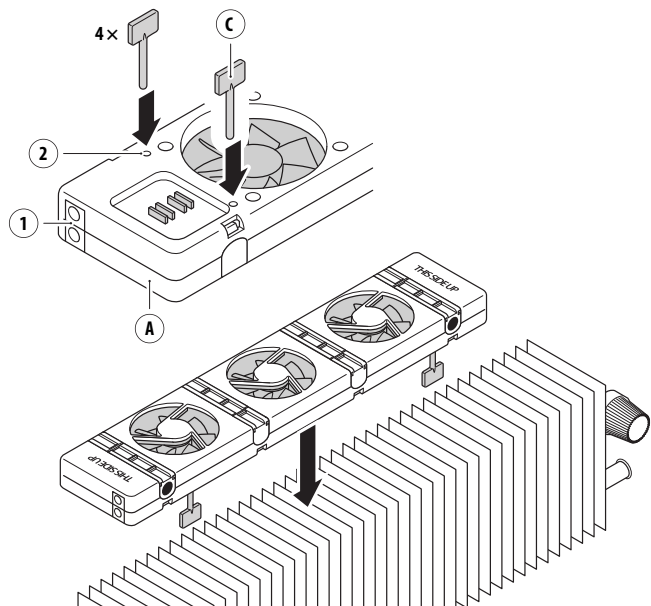

Fig. 8 – Attaching a foot (C).
1. Attach the **feet** (C) by pressing them into the recesses (2) of the **SpeedComfort** (A) (see Fig. 8).